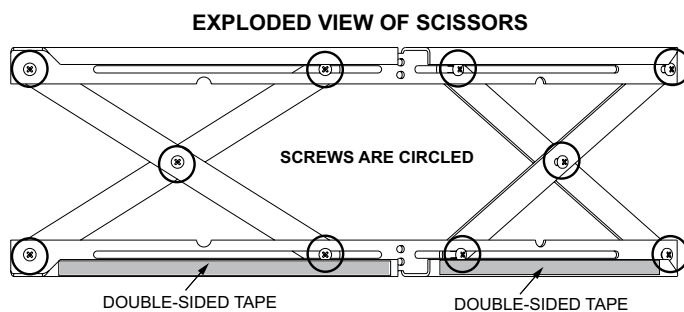

Figure 15A
1. The 10 screws on each set of scissors will already be loose when shipped. **See Figure 15A.**